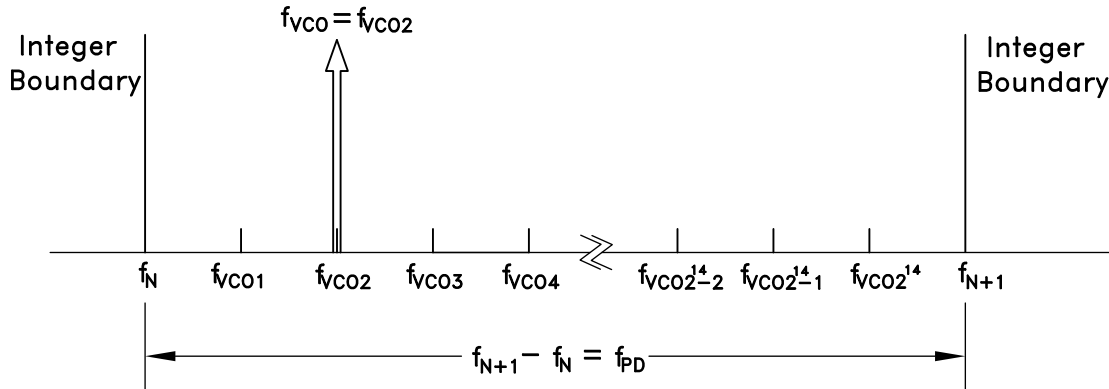

Figure 71. Exact Frequency Tuning
and f_{VCOk} are the channel step frequencies where $0 < k < 2^{24}-1$, As shown in Figure 71.
Some fractional PLLs are able to achieve this by adjusting (shortening) the length of the Phase Accumulator (the denominator or the modulus of the Delta-Sigma modulator) so that the Delta-Sigma modulator phase accumulator repeats at an exact period related to the interval frequency ($f_{VCOk} - f_{VCO(k-1)}$) in Figure 71. Consequently, the shortened accumulator results in more frequent repeating patterns and as a result often leads to spurious emissions at multiples of the repeating pattern period, or at harmonic frequencies of $f_{VCOk} - f_{VCO(k-1)}$. For example, in some applications, these intervals might represent the spacing between radio channels, and the spurious would occur at multiples of the channel spacing.
If it is desirable to have multiple, equally spaced, exact frequency channels that fall within the same interval (ie. $f_N \leq f_{VCOk} < f_{N+1}$) where f_{VCOk} is shown in Figure 71 and $1 \leq k \leq 2^{24}$, it is possible to maintain the same integer-N (Reg 03h) and exact frequency register (Reg 0Ch) settings and only update the fractional register (Reg 04h) setting. The Exact Frequency Channel Mode is possible if EQ 16 is satisfied for at least two equally spaced adjacent frequency channels, i.e. the channel step size.
To configure the HMC1190ALP6NE for Exact Frequency Channel Mode, initially and only at the beginning, integer (Reg 03h) and exact frequency (Reg 0Ch) registers need to be programmed for the smallest f_{VCO} frequency (f_{VCO1} in Figure 71), as follows:
1. Calculate and program the integer register setting $\text{Reg 03h} = N_{INT} = \text{floor}(f_{VCO1}/f_{PD})$, where f_{VCO1} is shown in Figure 71 and corresponds to minimum channel VCO frequency. Then the lower integer boundary frequency is given by $f_N = N_{INT} \cdot f_{PD}$.
$\text{Reg04h} = N_{FRAC} = \text{ceil}\left(\frac{2^{24} (f_{VCOk} - f_N)}{f_{PD}}\right)$ where $f_N = \text{floor}(f_{VCO1}/f_{PD})$, and f_{VCO1} , as shown in Figure 71, represents the smallest channel VCO frequency that is greater than f_N .
4. To change from channel 1 ($f_{VCO1} = 2800.2$ MHz) to channel 2 ($f_{VCO2} = 2800.3$ MHz), only Reg 04h needs to be programmed, as long as all of the desired exact frequencies f_{VCOk} (Figure 71) fall between the same integer-N boundaries ($f_N < f_{VCOk} < f_{N+1}$). In that case